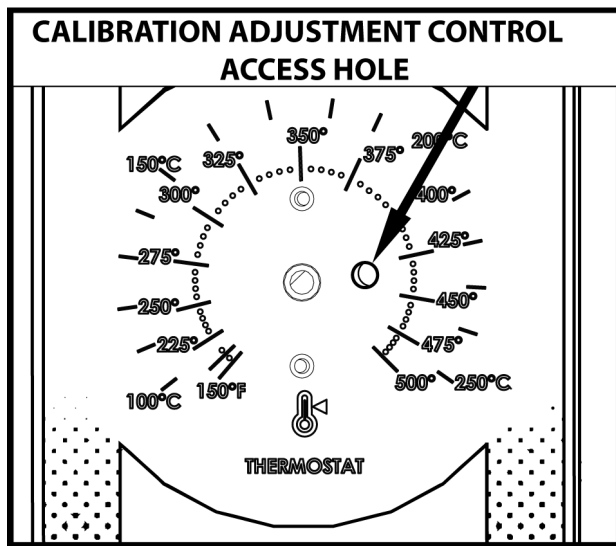

Fig. 59
- 2) Access adjustment potentiometer located at 3 o'clock position (Fig. 59).